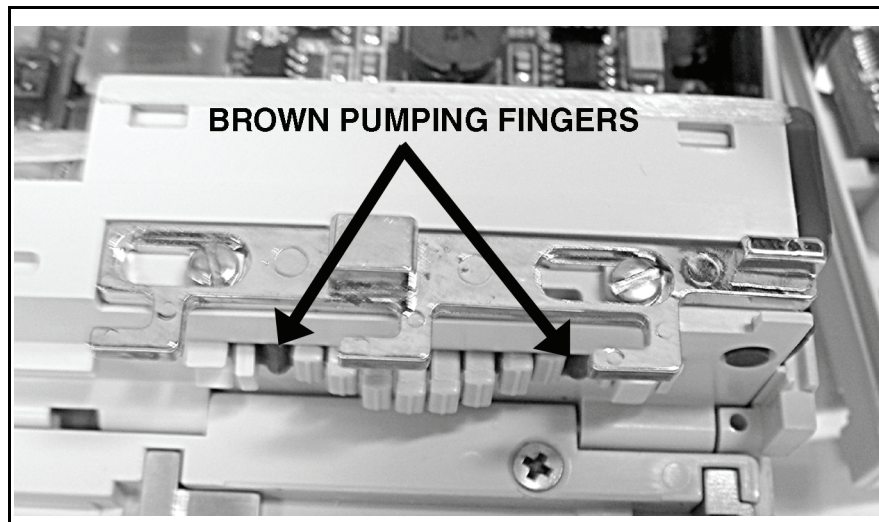

Figure 7-5. Brown Pumping Fingers
7. Refer to Figure 7-5. Ensure the two brown pumping fingers adjacent to the upstream and downstream actuators are retracted fully into the mechanism. This may be accomplished by pressing on the other fingers until the brown fingers are retracted.
1. Refer to Figure 7-5. Ensure the two brown pumping fingers adjacent to the upstream and downstream actuators are retracted fully into the mechanism. This may be accomplished by pressing on the other fingers until the brown fingers are retracted.